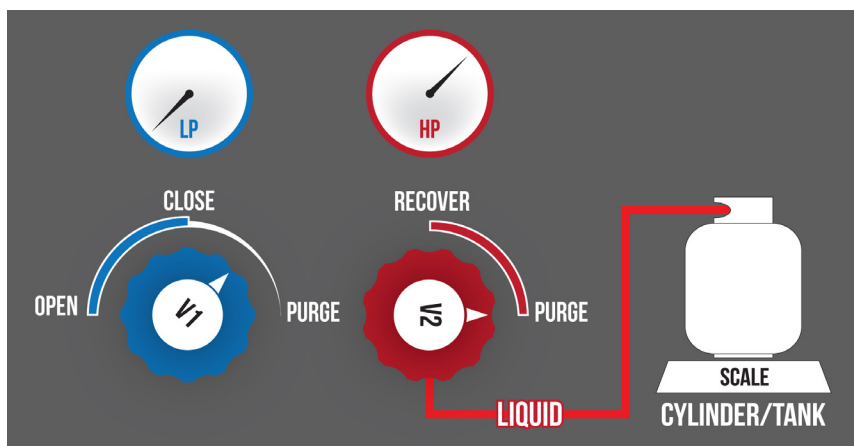

Figure 2 - Setup Procedure for Purging
- 12 Immediately purge the F6-DP-250. Purging is necessary to remove any residual refrigerant from inside the F6-DP-250 internal components as well as the hose from the outlet to the recovery tank. Refer to *Purging the F6-DP-250* and **Figure 2** below.
- 1 While the F6-DP-250 is off, rotate the PURGE/RECOVER valve (V2) to PURGE. See (See **Figure 2**).